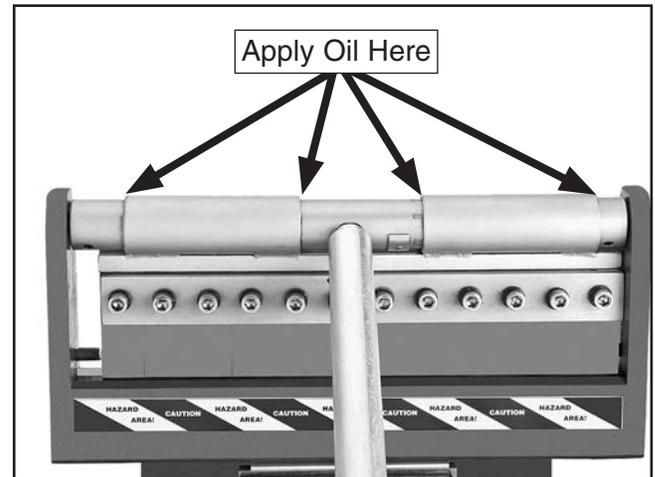

Figure 17. Finger clamp lubrication points.
- **Finger Clamp Sleeve Lubrication.** To reduce wear, periodically apply a couple of drops of light machine oil to each end of the finger clamp sleeves (see **Figure 17**), then slide the sleeves side-to-side several times to distribute the oil. Wipe away any excess oil.